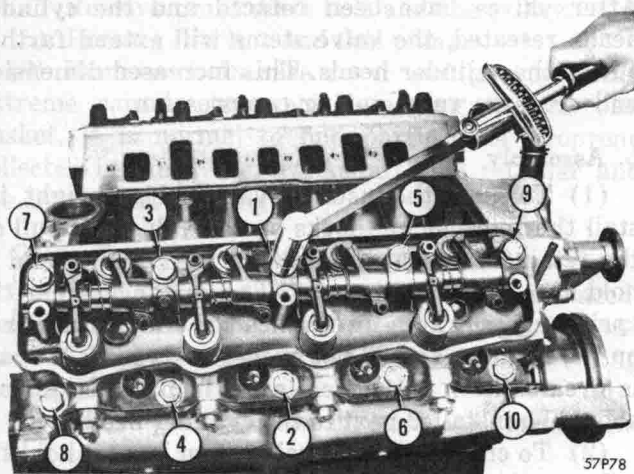

Fig. 2—Cylinder Head Tightening Sequence
(3) Coat new cylinder head gaskets with a suitable sealer and place gaskets on the cylinder block.
(4) Slide rocker shaft into bore of strut and at same time engage intake rocker arm. Install spring and engage the exhaust rocker arm. Install remainder of rocker arms in the same sequence. Make sure that rocker shaft head bolt grooves line up with head bolt holes in rocker shaft strut. The plug hole in strut must also line up with hole in rocker shaft. Tap in new rocker shaft plug.
(5) Remove cylinder heads from holding fixtures, Tool C-3626 and place heads on engine.
(6) Install and tighten all bolts on each head in sequence (Fig. 2). Retighten in the same sequence to 85 foot-pounds torque.